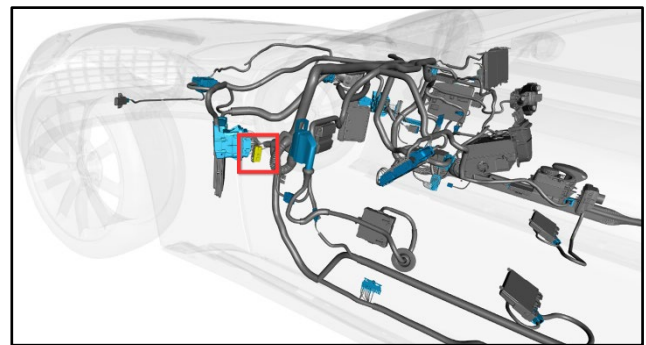

Figure 14
4. **Engine CAN** – This header is in the passenger's footwell (refer to Figure 14).